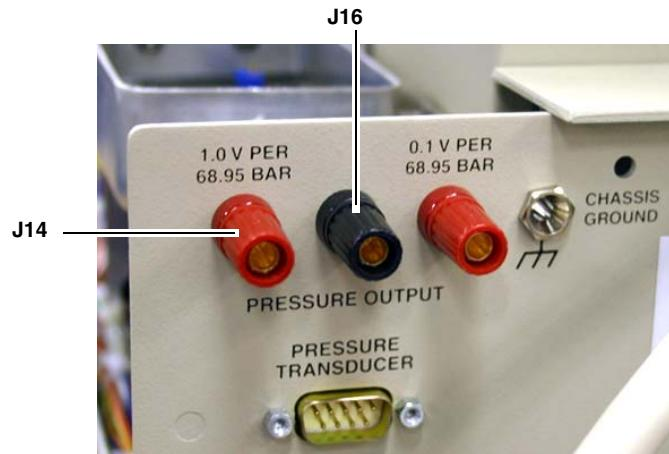

Figure 9-19 Pressure output jacks, pump rear panel
4. Connect the voltmeter to **J14** (left red banana plug on the pump rear panel, Figure 9-19), and **J16** (black center banana plug).